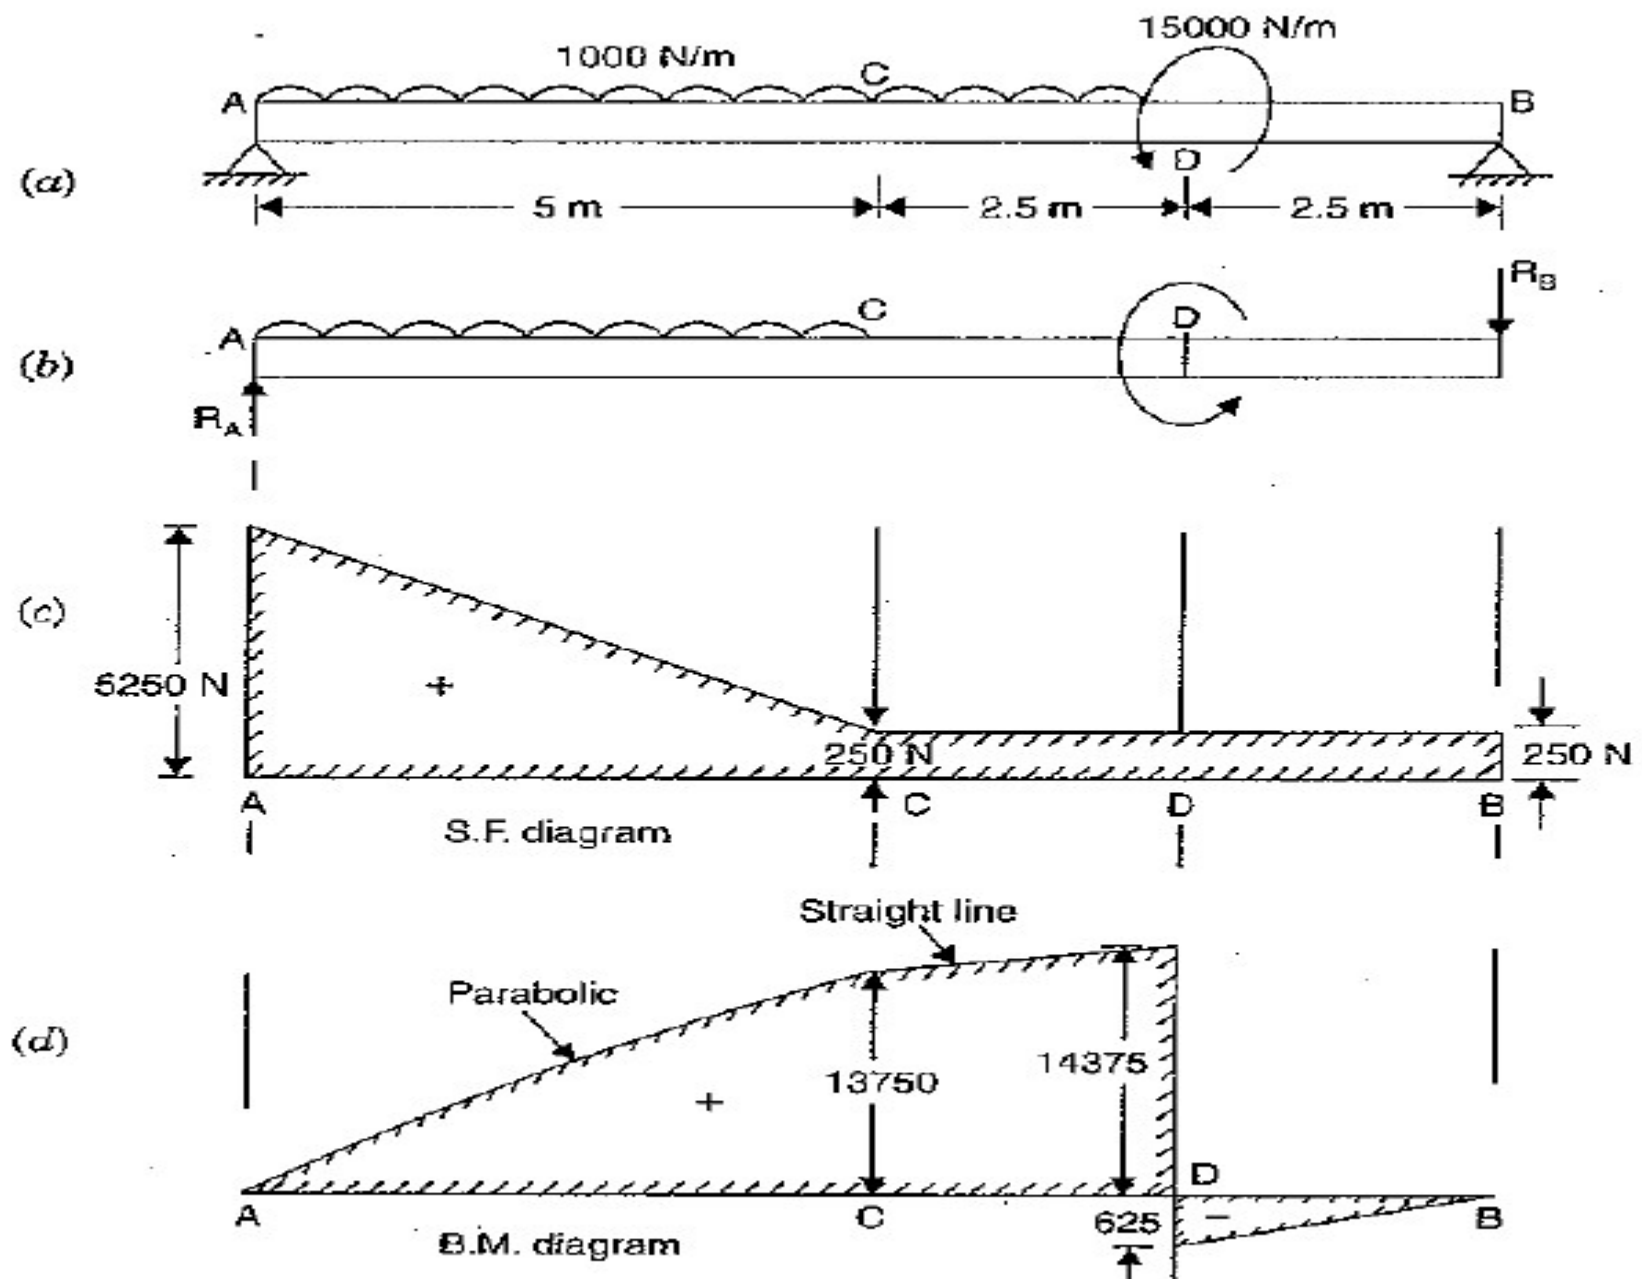

Fig. 6.44
This moment must be balanced by the moments due to reaction at B. Hence the moment about A due to reaction at B should be equal to 2500 Nm (clockwise). This is only possible when  $R_B$  is acting downwards. This is shown in Fig. 6.44 (b).
S.F. diagram is shown in Fig. 6.44 (c).
The B.M. diagram is shown in Fig. 6.44 (d).